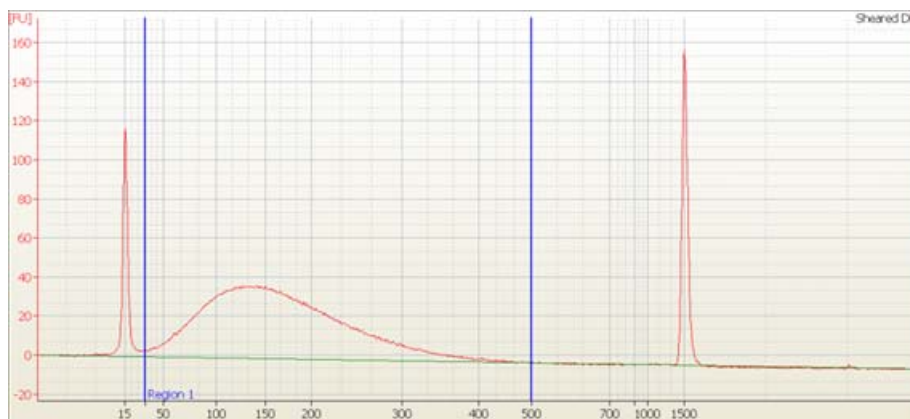

Figure 2 Analysis of sheared DNA using a DNA 1000 Bioanalyzer assay.
- 7 Check that the electropherogram shows an average DNA fragment size of 150 to 200 bp. A sample electropherogram is shown in Figure 2.